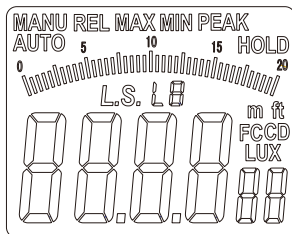

Figure 3-5-1
- Hold the "MAX/MIN/LS" button for one second and the LS value will flash on the LCD display (as shown in figure 3-5-1). The meter is now in source selection mode. Press "REL/PEAK" or "HOLD/ZERO" to change the light source (L0-L9), long press to accelerate change.